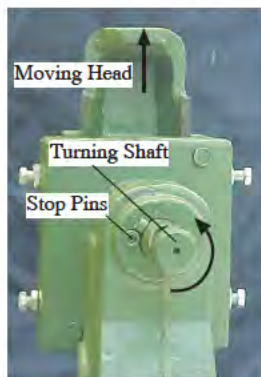
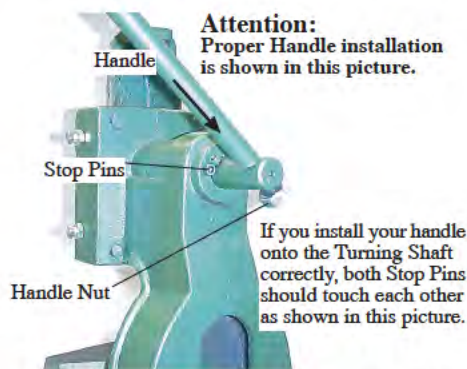

Figure 3. Back View
Figure 4. Back view with handle on
5. Lift the Moving Head while rotating the shaft counterclockwise to its furthest position (**both Stop Pins should touch each other**) as shown in Figure 3. Take the Handle Nut off the Handle, insert the threaded end of the Handle into the hole on the Turning Shaft, and tighten the Handle Nut as shown in Figure 4.
It is imperative to lubricate the moving head by injecting a small amount of lubricant into the hole in front of the moving head as shown in Figure 22 with the syringe (Stk#AS65) every **144 grommets** you set or **1,000 button forms** you make. Make sure that you turn the handle counterclockwise all the way to 10 o'clock position as shown in figure 4 before you injecting the lubricant into the hole in front of the moving head.